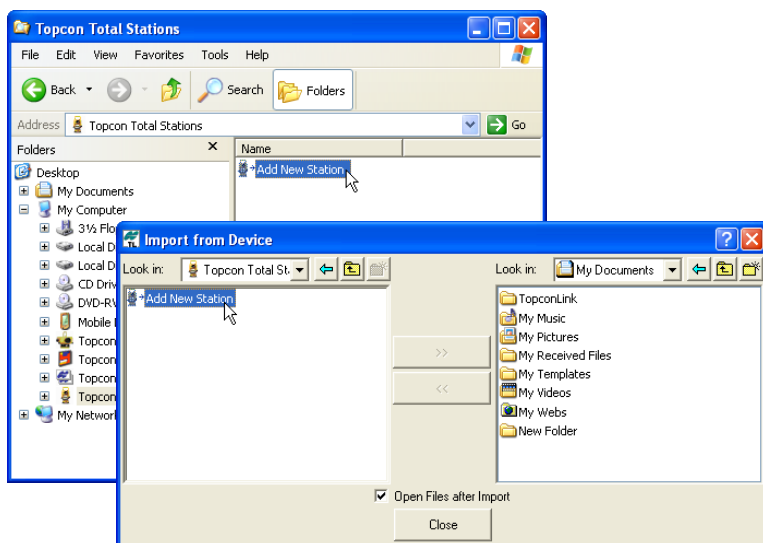

Figure 2-4. Add a New Station
1. Navigate to the Sokkia Receiver device directory (Figure 2-4 on page 2-6).
2. Double-click Add New Sokkia receiver (Figure 2-4).
1. Navigate to the Total Station device directory (Figure 2-4 on page 2-6).
2. Double-click Add New Station (Figure 2-4).